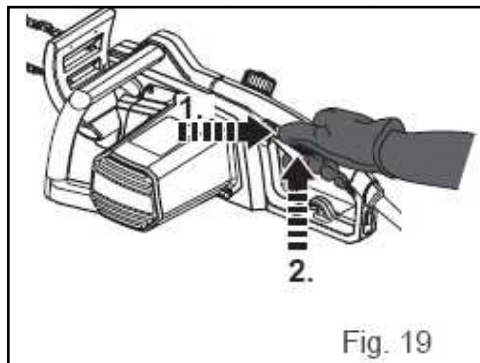

Fig. 19
Squeeze in the on/off switch (17) to switch the product on (Fig.19).
Make the notch (Fig. 19 B) 1/3 the diameter of the tree, perpendicular to the direction of falls (Fig. 29). Make the lower horizontal notching cut first. This will help to avoid pinching either the saw chain or the guide bar when the second notch is being made.